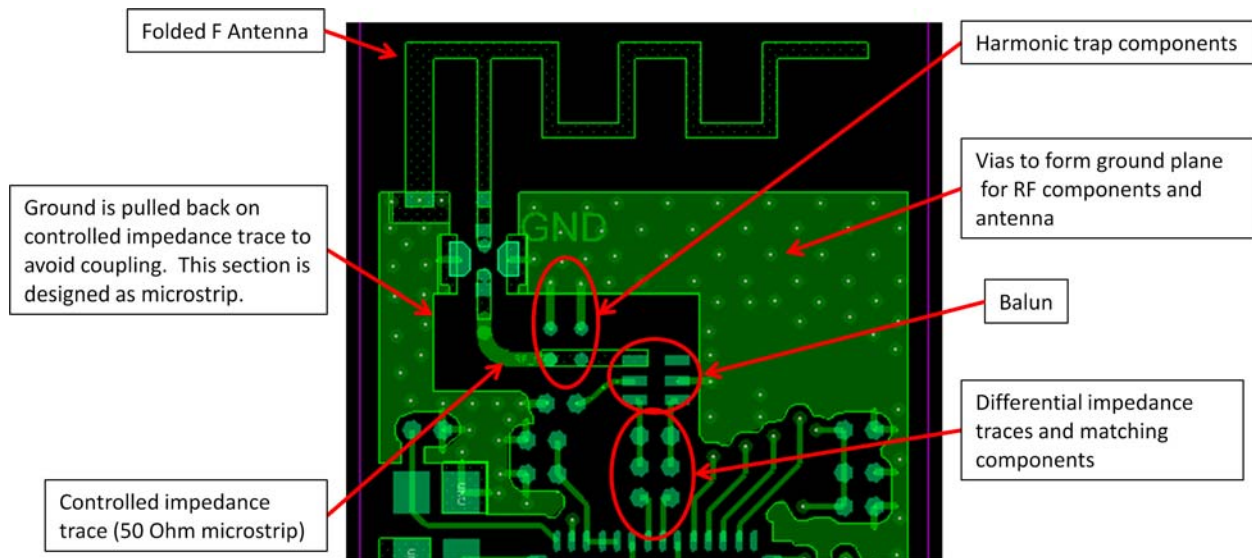

Figure 9. RF Matching Network
- In Figure 9 the microstrip topology is used. In CPW, the gap to ground is integral to maintaining the characteristic impedance.